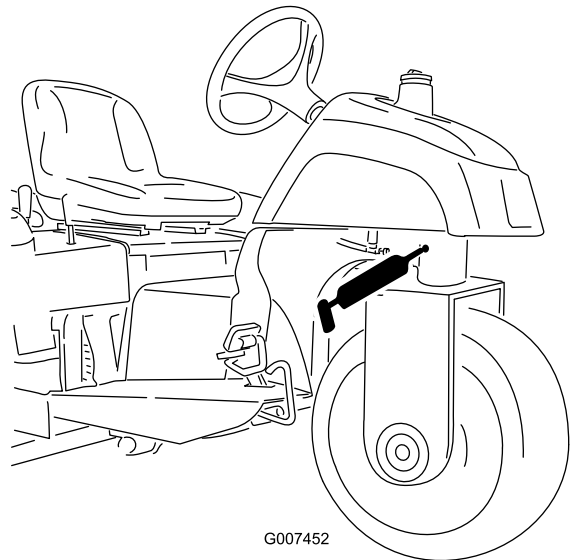

Figure 26
- Steering pivot (Figure 26)
**Note:** The flush fitting on the steering pivot (Figure 26) requires a grease gun nozzle adapter. Order Toro Part No. 107-1998 from your Authorized Toro Distributor.